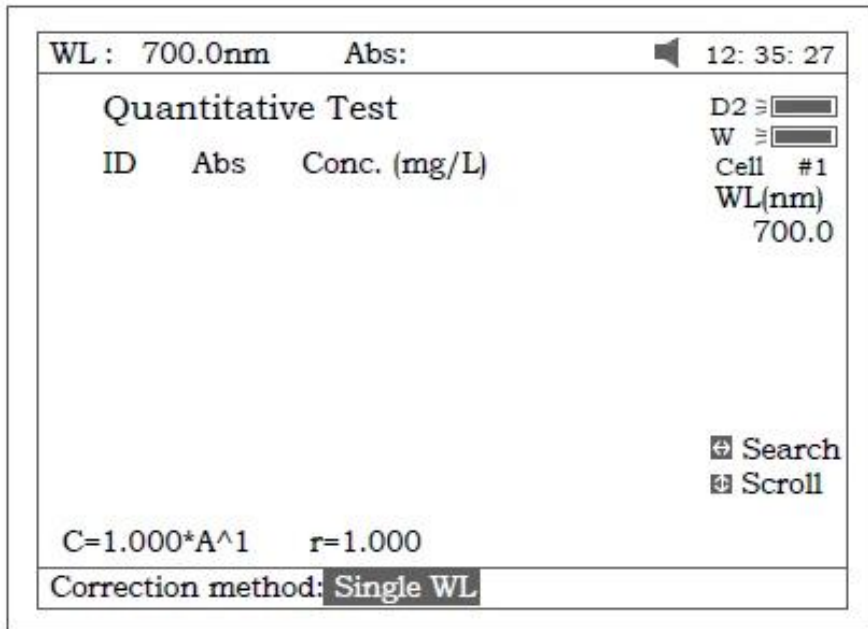

Figure 28
2. Press **【SETλ】** to select correction methods and enter the wavelength. There are three correction methods (single, Isoabsorbance and 3 point, Fig 28)